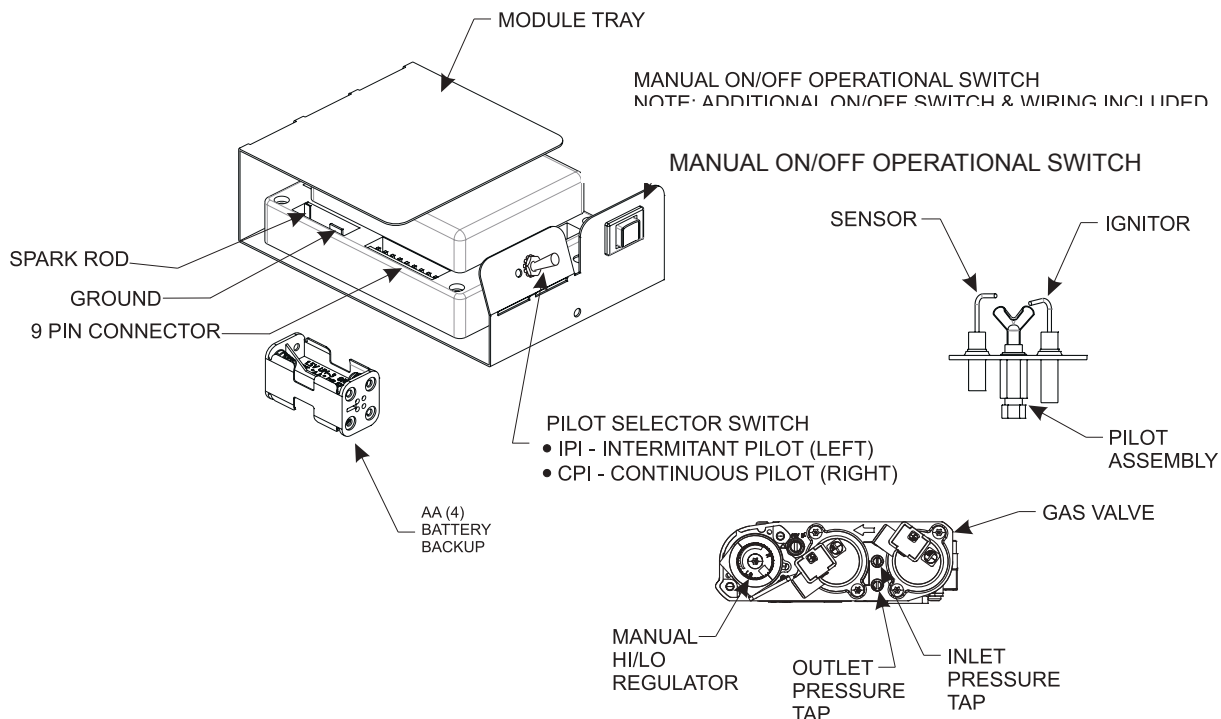

Figure 76
NOTICE: A small toggle switch is located on the front of the module tray that is used to switch from IPI (left) to the CPI (right). See Figure 76.
3. The gas valve has inlet and outlet pressure taps as shown in Figure 76. Refer to page 13 for gas pressure requirements.
To connect the remote receiver to the fireplace, first disconnect the ON/OFF switch wires from the white and green wire connectors and connect the wires from the remote receiver to the green and white wire connectors. See Figure 76. Follow the instructions included with the remote control for programming and other operational information.